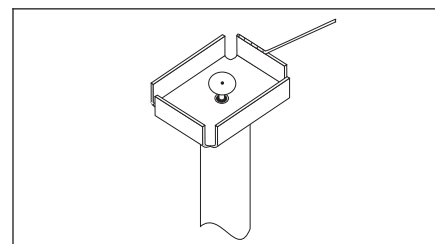

Figure 2 Tin Tip
8. Tin bottom edge of tip with solder. (See Figure 2.)